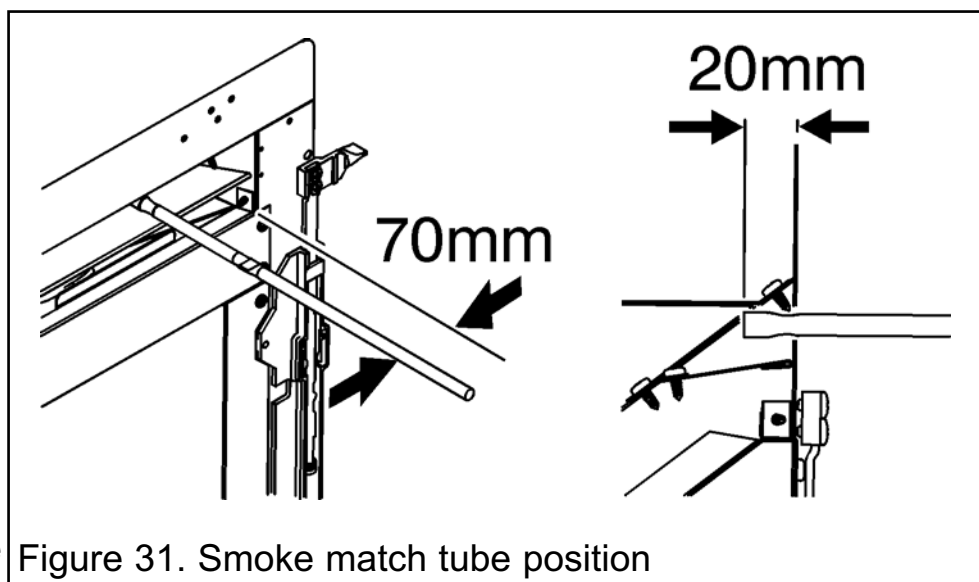

Figure 31. Smoke match tube position
4. The smoke match should be placed horizontally into the top of the down draught air relief opening, 70mm from the right hand side. Insert the smoke match tube up to the neck of its flared end (approximately 20mm) (See figure 31).